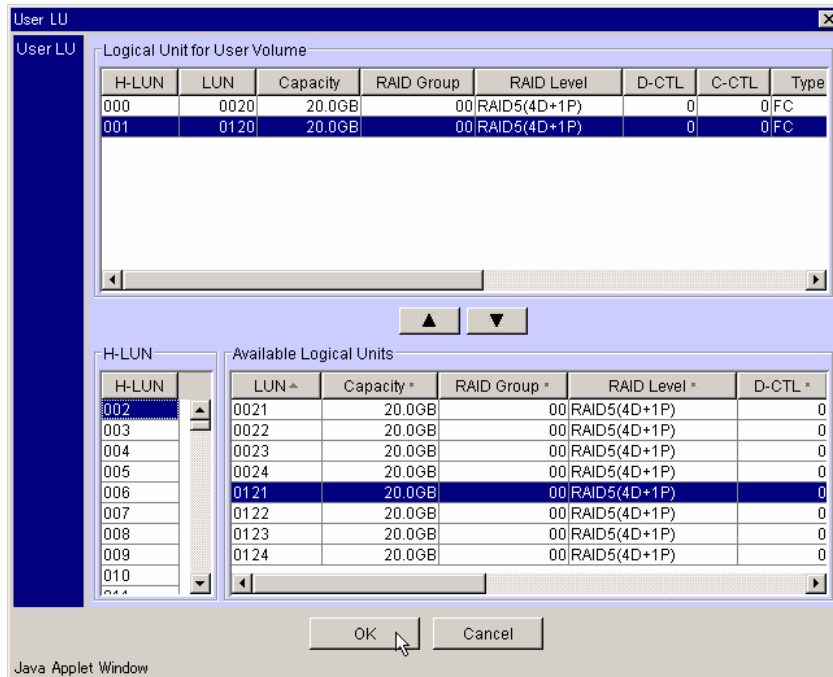

Figure 10.14 User LU - H-LUN
- Repeat step 5 and complete a User LU list. See Figure 10.14.